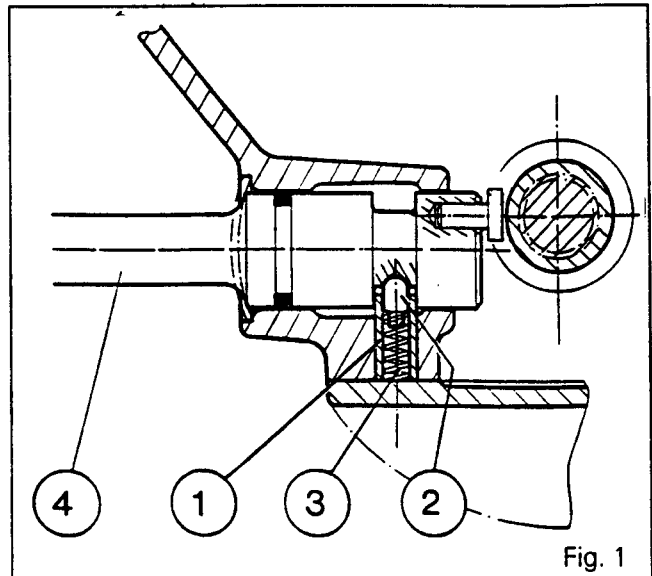

Fig. 1
3. Remove the bolts (10) and the cover (17).
**Note : On tractors with a ground speed PTO (G.S. PTO), recover the spring (3), the plunger (2) and the retaining tube (1) (Fig. 1).